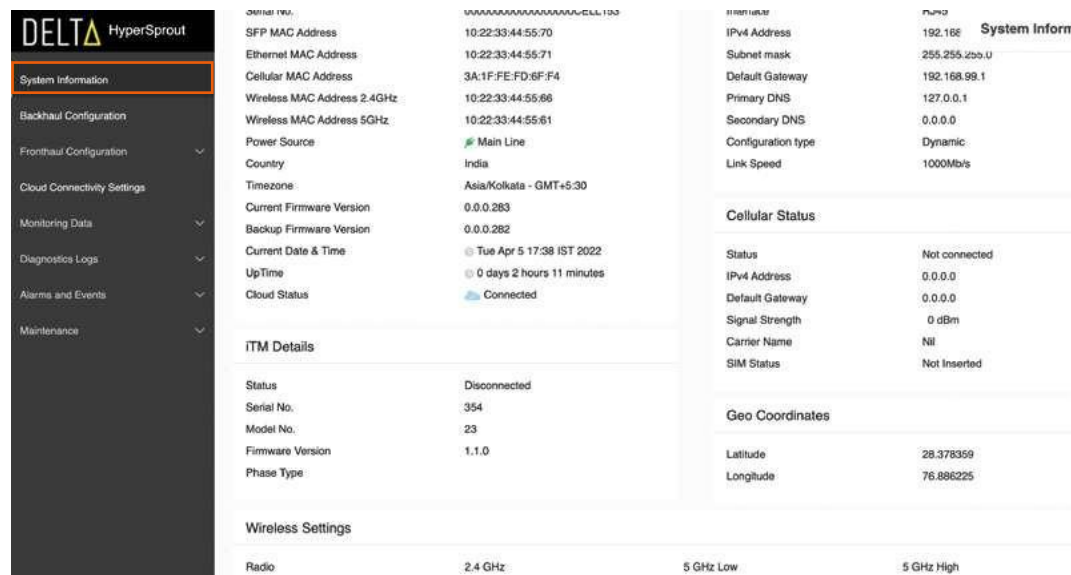

Figure 39: System Information - 2
- f. In the **System Information** page, we will be able to see the remaining board details such as **Wireless Settings**, **Geo Coordinates**, and **iTM Details**. See **Figure 39**.